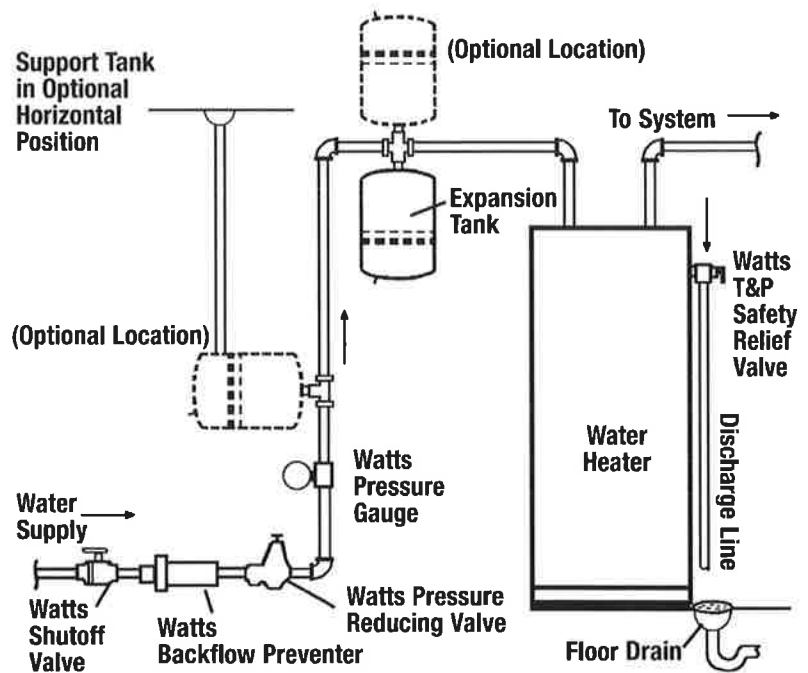

Figure 1
- Read the system pressure at the pressure gauge (Figure 1).